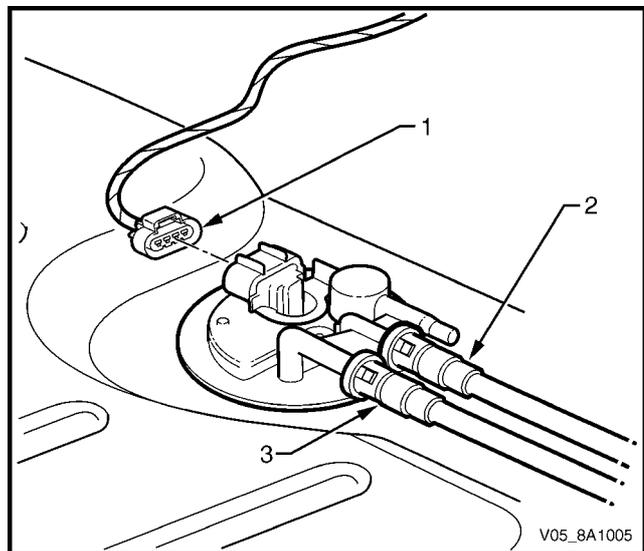

Figure 8A1 - 71
- 12 Tag the fuel tank vent line (5) on top of the fuel tank and disconnect by pulling the fuel tank vent line from the rollover valve, refer to Figure 8A1 - 63.
- 13 Disengage the fuel return line quick-connect fitting (1) using tool No. AU533 (3/8-inch), refer to Tool No. AU533.
- 14 Disengage the fuel feed line quick-connect fitting (2) using tool No. AU533 (3/8-inch), refer to Tool No. AU533.